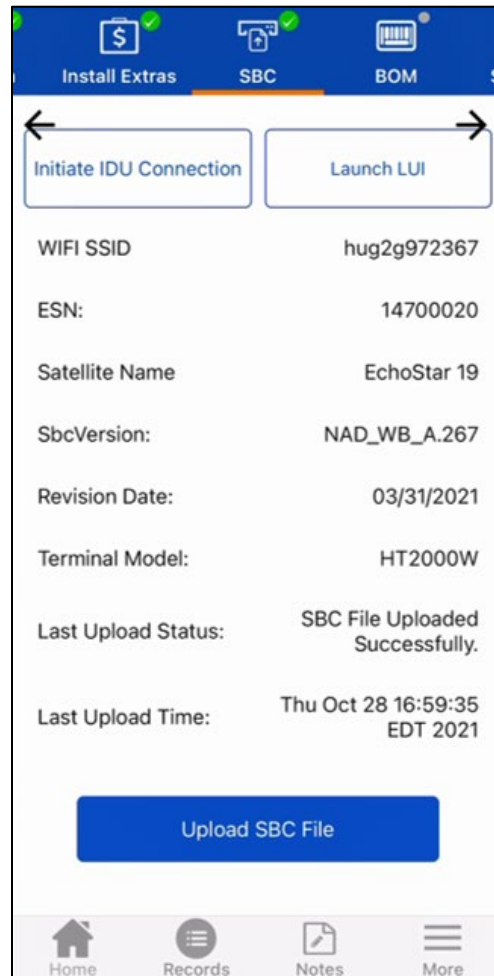

Figure 47: SBC screen
2. Lift your device towards the sky. This activates your device's camera with a cross-hair overlay (Figure 47).
4. The yellow crosshair will turn green when you are within 5 degrees of exact alignment with the satellite, as shown in Figure 47.
9. Tap **Capture** (outlined in Figure 47) to take a screenshot of the LOS measurements. OASIS records the required LOS information (satellite name, satellite location, and Az/EI measurements).
OASIS returns you to the main screen of the LOS step. A thumbnail of the photo appears on the bottom of the screen (Figure 47).